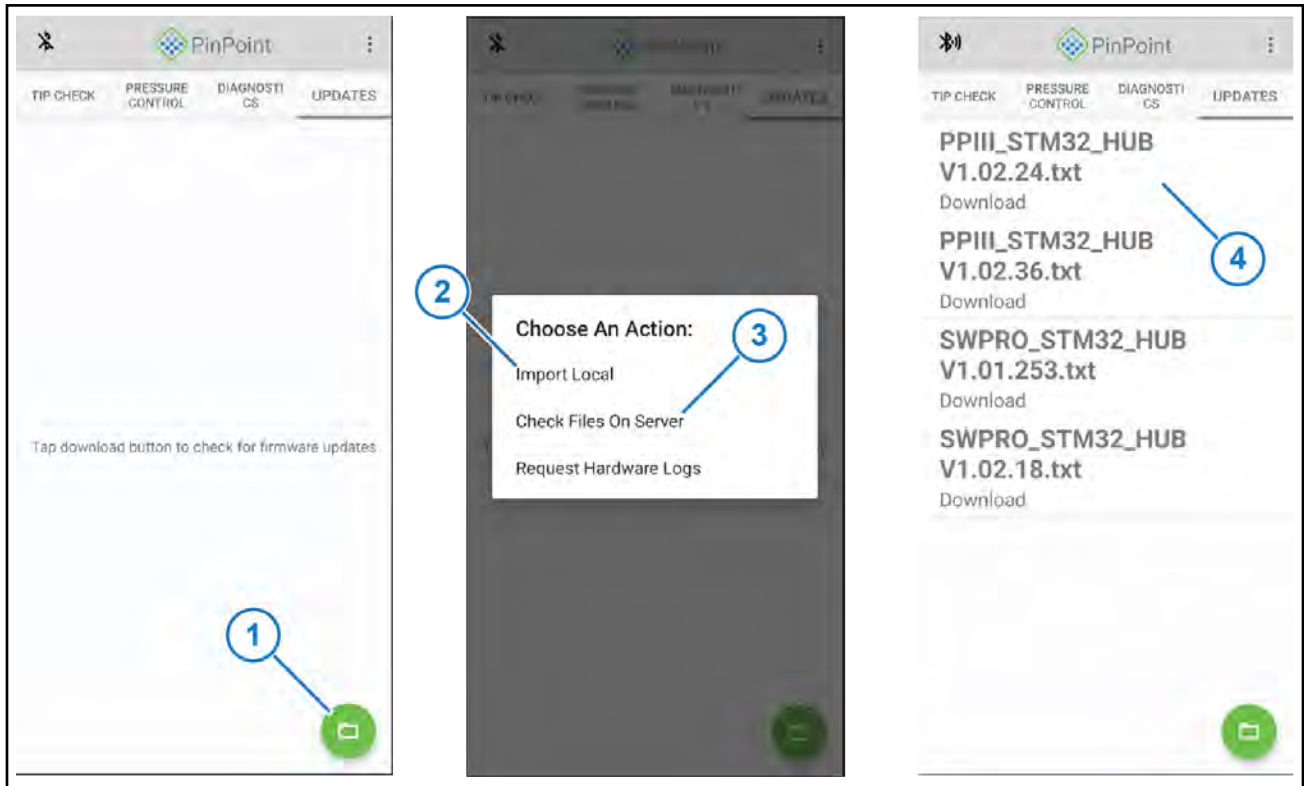

Figure 6: Software Update
2. Tap the folder icon (Figure 6, Item 1).
3. If the software update file has been saved to your device tap the Import Local icon (Figure 6, Item 2).
4. If the update file is not on your device, tap the Check Files on Server icon (Figure 6, Item 3) to browse for files on the Capstan server.
5. Tap the desired software revision (Figure 6, Item 4) from the displayed list.